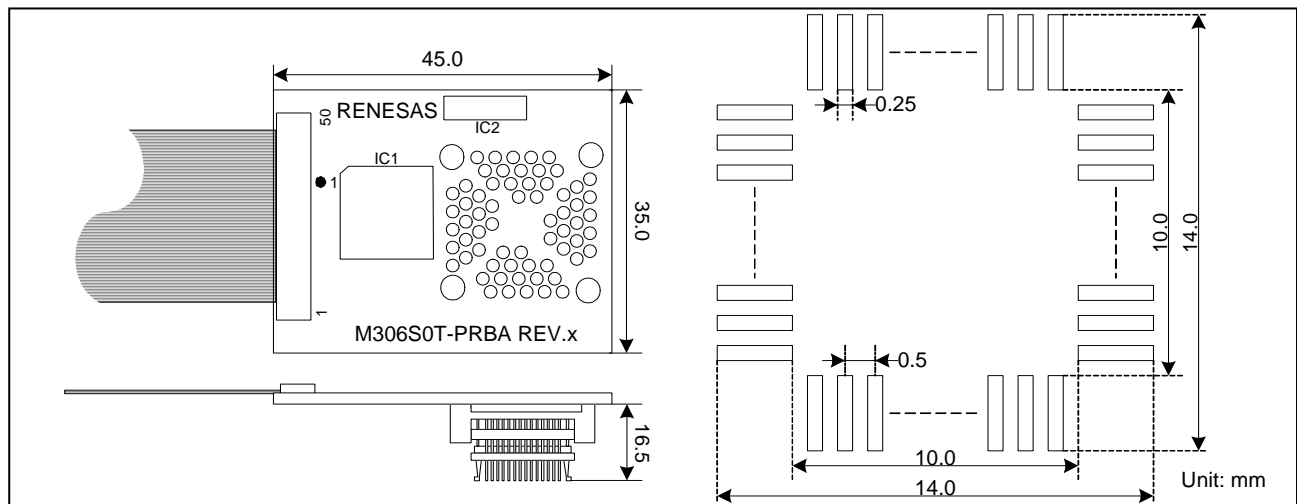

Figure 6.1 External dimensions and a sample foot pattern
6. External Dimensions and a Sample Foot Pattern (See Figure 6.1)